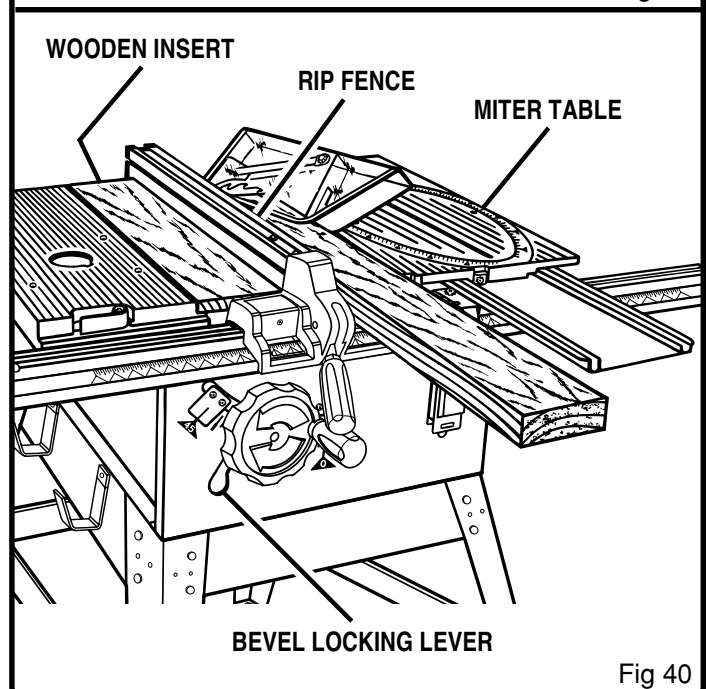

Fig 40
See Figure 40.
- Place the wooden insert between the accessory table and the saw table to support the workpiece. See Figure 40. Secure the wooden insert with screws as noted below. Adjust the accessory table firmly against the wooden insert and lock securely.